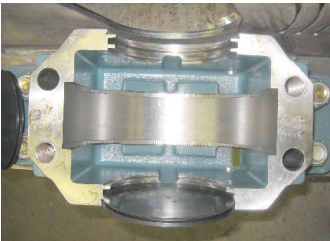

Figure 1
7. With nitrile gloves on and a clean rag, manually scoop and wipe out the grease from the bearing cavity and place in a disposal bucket. See Figure 1.